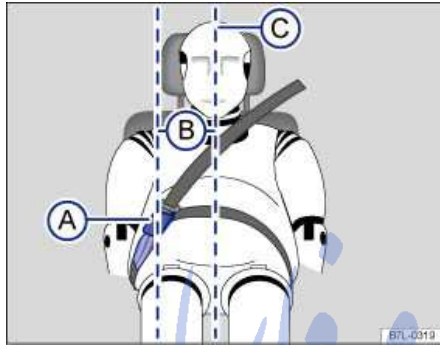

Fig. 56 Positioning of the safety belt extender.
Key to fig. 56:
- Never use a safety belt extender if the distance (B) between the front edge of the safety belt extender buckle (A) and the centerline of the person using the safety belt extender ⇒ fig. 56 \(C\) is less than 6 inches (15 cm).